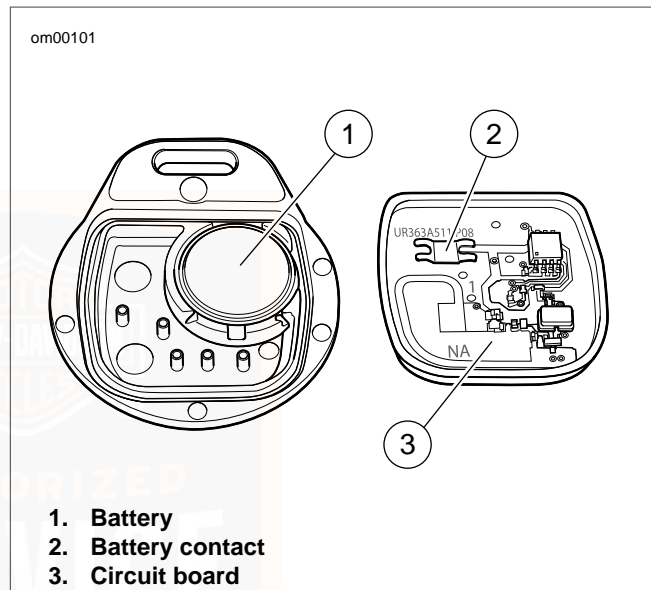

Figure 22. Key Fob Battery Replacement
2. See Figure 22. Remove the old battery and discard.